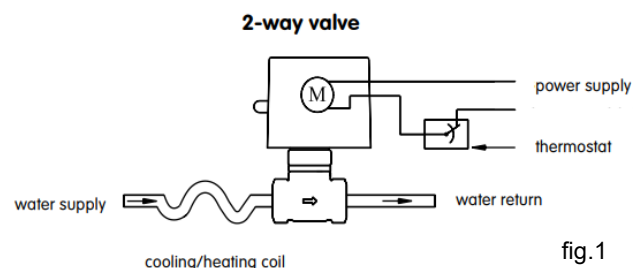

fig.1
**2-way valves normally closed:** the flow direction is shown in figure (the valve closes against the flow of the water, fig.1).
Valve motor and gear train will not operate properly when wet. Motor housing must be protected from drip. The actuator together with the valve body do not need to be protected against condensation when installed horizontally or up to 85° from upright position (see fig. 1). When mounted in vertical piping, motor housing must be protected from drip.